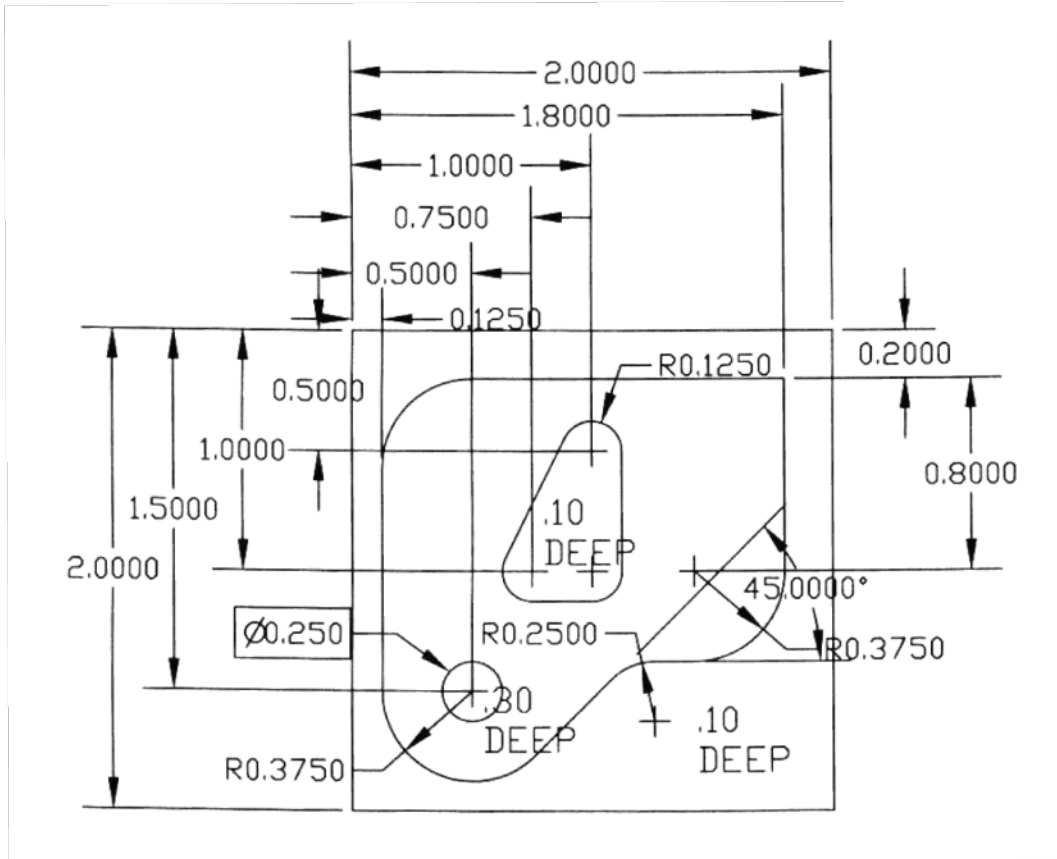

Figure 1: Part dimensions for CNC milling.
This week's laboratory assignment involves using the CAM software (Mastercam) to create a part program for the part shown in Figure 1, post-processing the program and running it on the Fryer MB-10 CNC milling machine.
1. Using the Mastercam manual (if necessary), create a part program for the part shown in Figure 1. Use default machine type before defining tool paths. There are three features on this part: middle island generation, pocketing, and drilling (use chip break cycle for drilling). The workpiece is Aluminum 7075-T6 and 2 inches by 2 inches in size. Use the following cutting conditions: